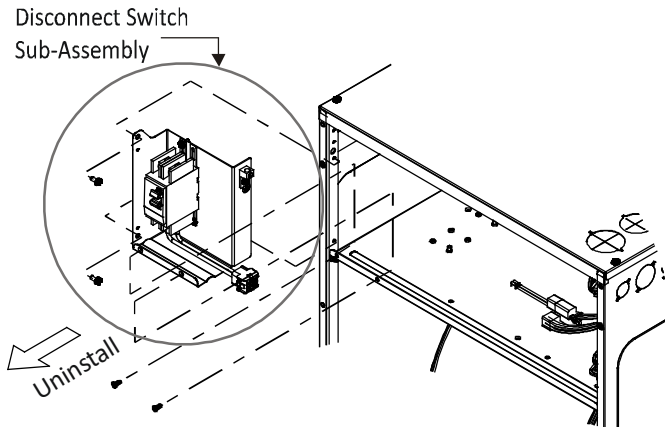

FIGURE 18
**NOTE: AIR HANDLER WITH DISCONNECT SWITCH - ATTACH THE SUPPLY WIRES TO THE DISCONNECT SWITCH TERMINALS AS SHOWN IN THE UNIT WIRING DIAGRAM USING APPROPRIATELY SIZED SOLDERLESS CONNECTORS OR OTHER NEC OR CEC APPROVED MEANS. A GROUND LUG IS ALSO PROVIDED ON THE DISCONNECT SWITCH MOUNT BRACKET (FIGURE 18) IN THE ELECTRICAL COMPARTMENT. THE GROUND WIRE FROM THE POWER SUPPLY MUST BE CONNECTED TO THIS GROUND LUG.**
**NOTE: AIR HANDLER WITH DISCONNECT SWITCH - DO NOT USE DISCONNECT SWITCH ASSEMBLY INSIDE THE UNIT WHILE INSTALLING HEAT KIT. REFER FIGURE 18 TO KNOW HOW TO REMOVE DISCONNECT SWITCH ASSEMBLY FROM UNIT.**